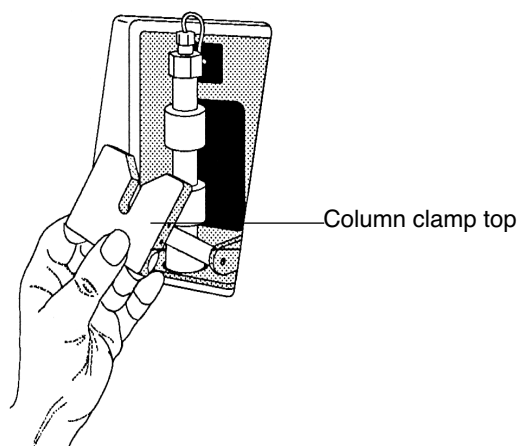

Figure 22. Pull out the PSC column clamp.
2. Remove the calibration column from the luer fittings at the peptide synthesis column (PSC) position. **Do not unscrew the black plastic bushing attached to the top luer fitting.** Replace the calibration column with the peptide synthesis column labelled “V” (valine). See Figure 22.